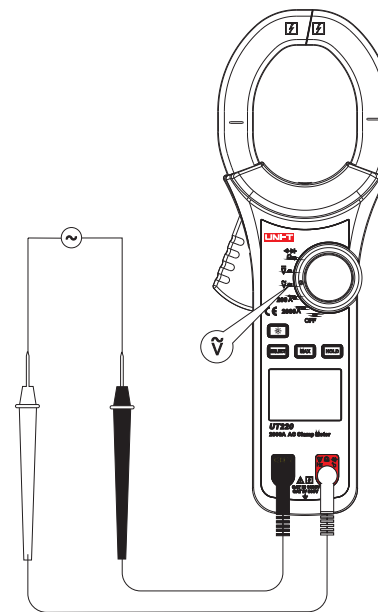

Figure 4
2. AC voltage measurement \tilde{V} (See Figure 4)